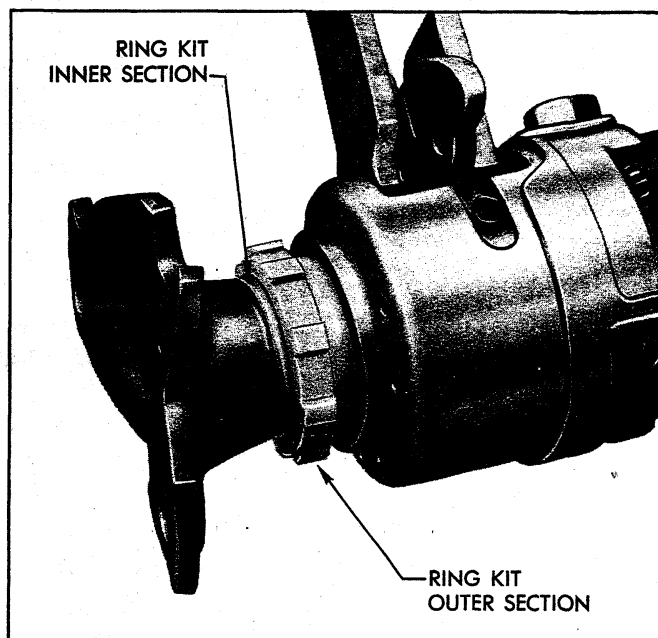

Fig. 35—Tolerance Ring Kit—First Adjustment
18. Screw tolerance ring kit sections together leaving enough inner edge exposed for later adjustment as shown in Figure 35.